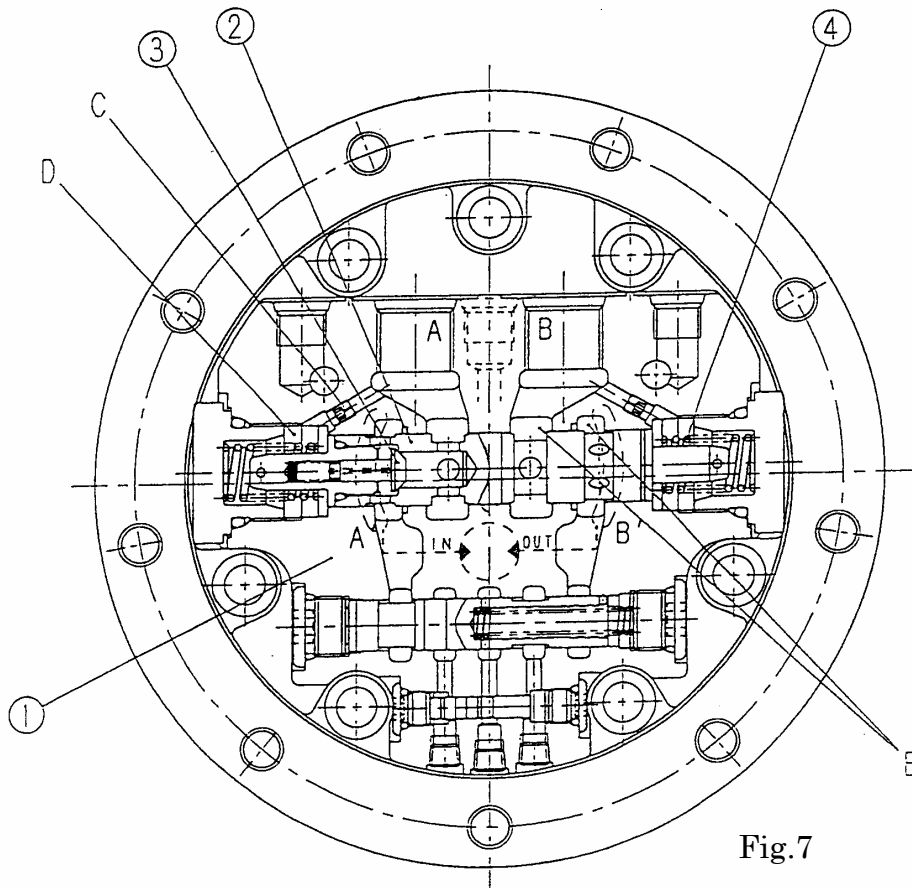
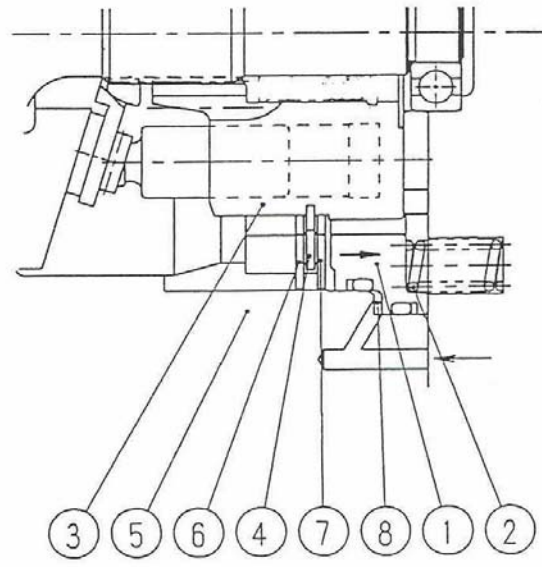

Fig.7
Fig.9
When A or B ports are pressurized, the oil is lead to chamber (8) shown in Fig.7. Then the brake piston (1) is moved to the direction (shown as arrow) against the force of spring (2). As a result, the disk plate (4) is released from the steel plates (6 and 7), and the cylinder barrel (3) can be rotated.(Fig.9)